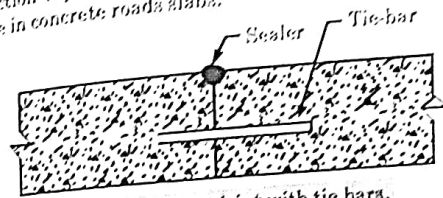

Fig. 4.21.3. Butt joint with tie bars.
- i. In this type of longitudinal joint, tie bars of 12 to 15 mm diameter are provided as shown in Fig. 4.21.3.